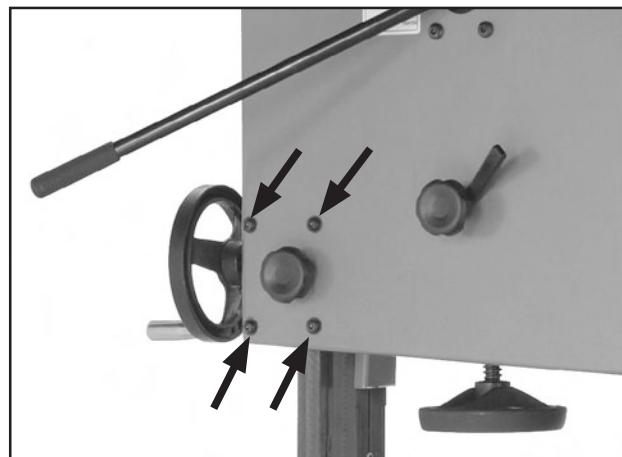
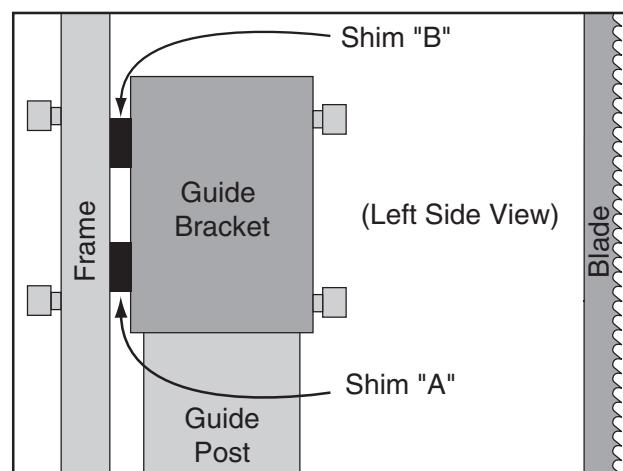

Figure 92. Guide post adjustment screws.
Figure 94. Location for placing shims.
7. Loosen each of the four screws shown in **Figure 92** $\frac{1}{4}$ turn.
9. Tighten the screws shown in **Figure 92**.
7. Loosen the four screws shown in **Figure 92** enough to fit metal shims between the frame and the guide post bracket (see **Figure 94**).
8. Tighten the four screws shown in **Figure 92**, then repeat **Steps 4–5**.